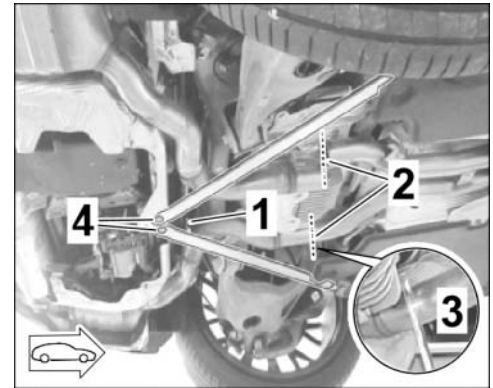

Figure 22
3.1.4 Cut rear silencer at the connection point for the front silencer (marking on underside) using pipe cutters or **body saw** (⇒ Figure 22).